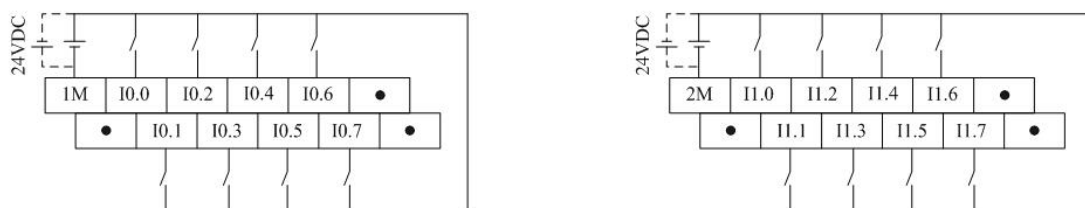

Figure 80 Upper Terminal Definition and Wiring Lower Terminal Definition and Wiring
- 1M and 2M terminals of input channel (DI) are common terminal for peripheral DI, users can choose to connect them to positive terminal or negative terminal of 24VDC power to fit sink/source type DI.
- Connecting external field power supply to two DI channel of same common terminal will cause close of channel (indicating as right diagram in Figure 80), whereas no damage to module will be caused.